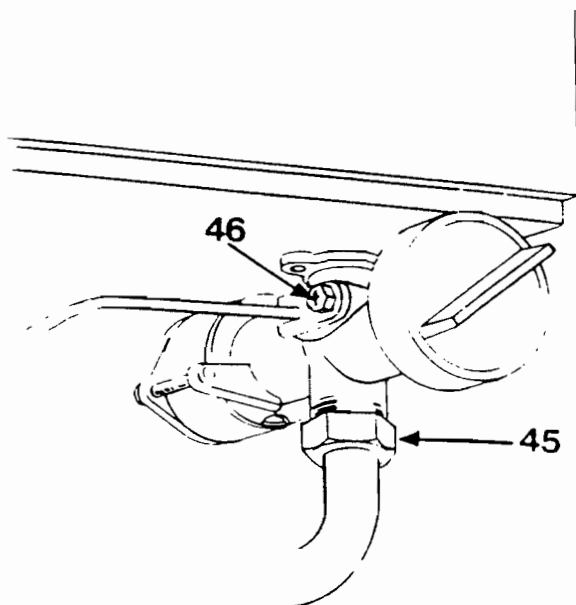

FIG. 16
Release the union connection (45) Fig. 16.
Release the screw and clip securing the sensing tube (46) Fig. 16.